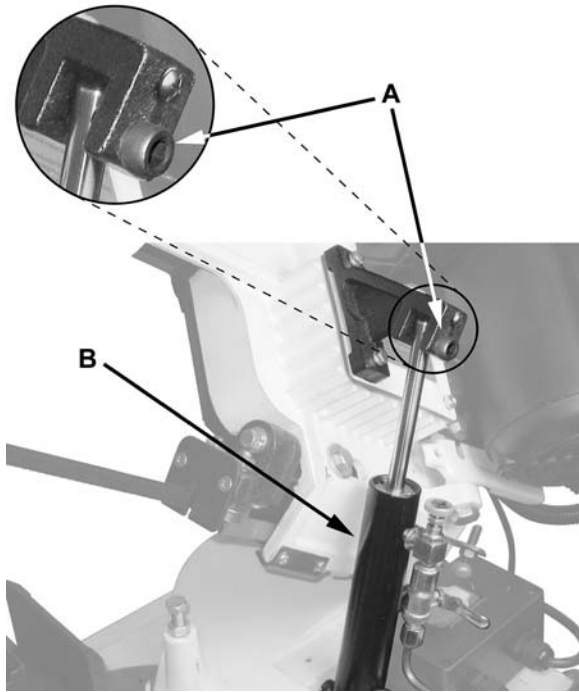

Figure 22
1. The band saw can be placed in vertical position to facilitate blade changes, maintenance, etc. Remove the screw (A, Fig. 22) and slide it out to disengage the hydraulic cylinder (B, Fig. 22).